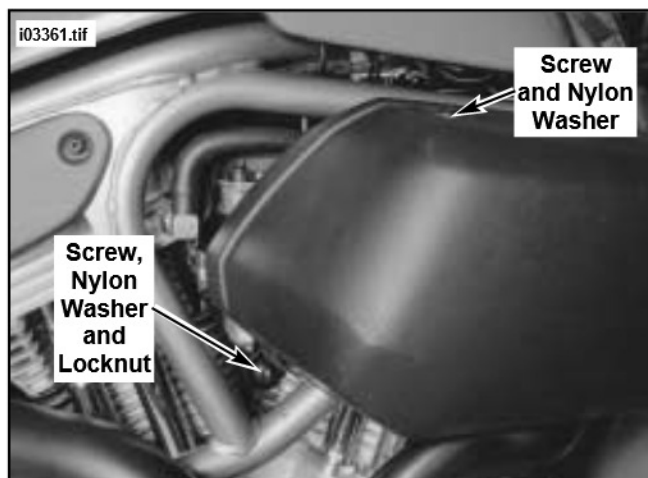

Figure 1 Remove Existing Air Cleaner Cover
3. See Figure 1. Remove screw and nylon washer on top of air cleaner cover.